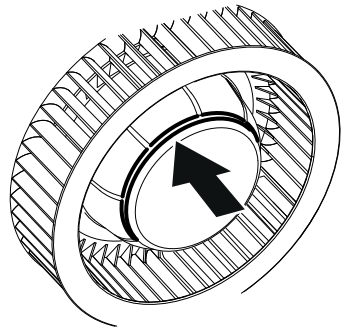

**Fig. 4**
Release the blower by bending the snap retainer outwards in the direction of the arrow (1) and pushing the housing away from you and down (2), Fig. 4.